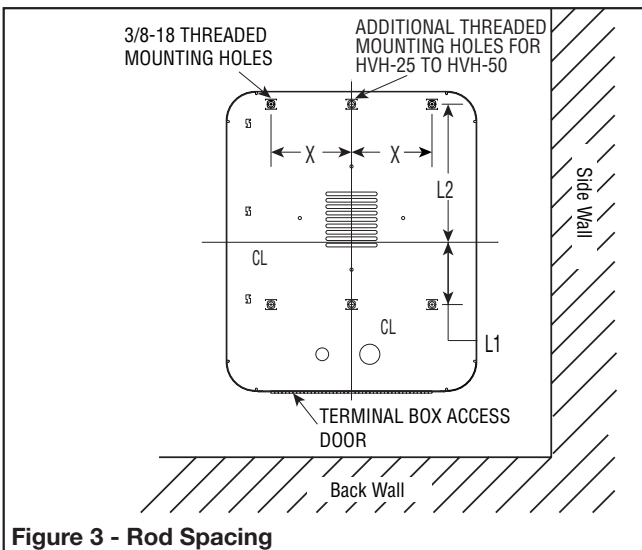

Figure 3 - Rod Spacing
- A. It is recommended that the heater only be used with ceiling heights of 12 feet or greater. Minimum spacing to ceiling is 6 inches, use 3/8-18" thread stock (supplied by others) as shown in Figure 3.
- A. The heater can be rod mounted to the ceiling by installing four (4) threaded mounting rods in the threaded holes located on the top of the heater as shown in Figure 3. (Refer to Table C for mounting rod thread size.)
- The bottom access door is hinged. There are two screws that must be removed to gain access (Fig. 3).
5. The bottom access door is hinged. There are two screws that must be removed to gain access (Fig. 3).